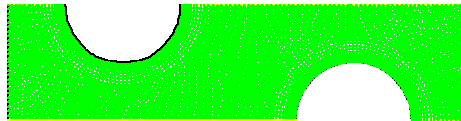

Figure 2.2: Mesh for the Periodic Tube Bank
5. Examine the mesh (Figure 2.2).
Quadrilateral cells are used in the regions surrounding the tube walls and triangular cells are used for the rest of the domain, resulting in a hybrid mesh (see Figure 2.2). The quadrilateral cells provide better resolution of the viscous gradients near the tube walls. The remainder of the computational domain is filled with triangular cells for the sake of convenience.